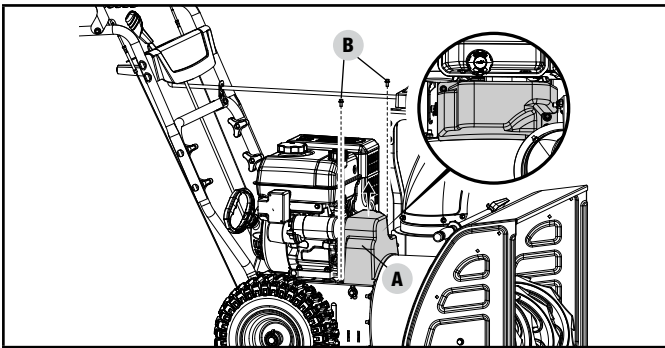

Figure 38
1. Remove the plastic belt cover (A) on the front of the engine by removing two M6 × 16 bolts (B) (Fig. 38).